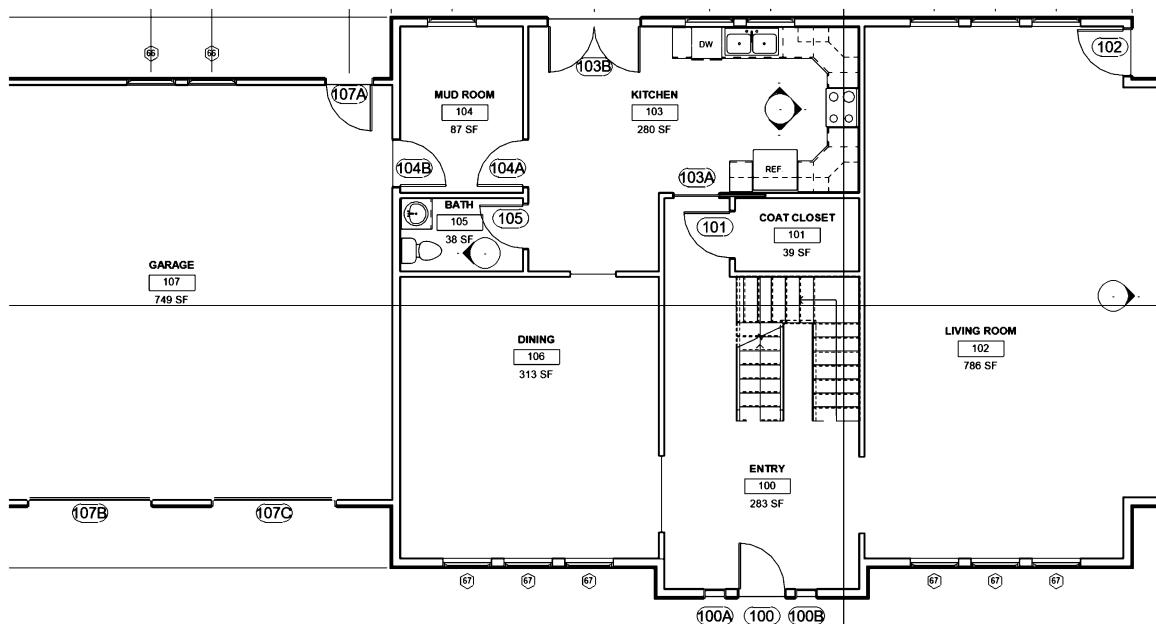
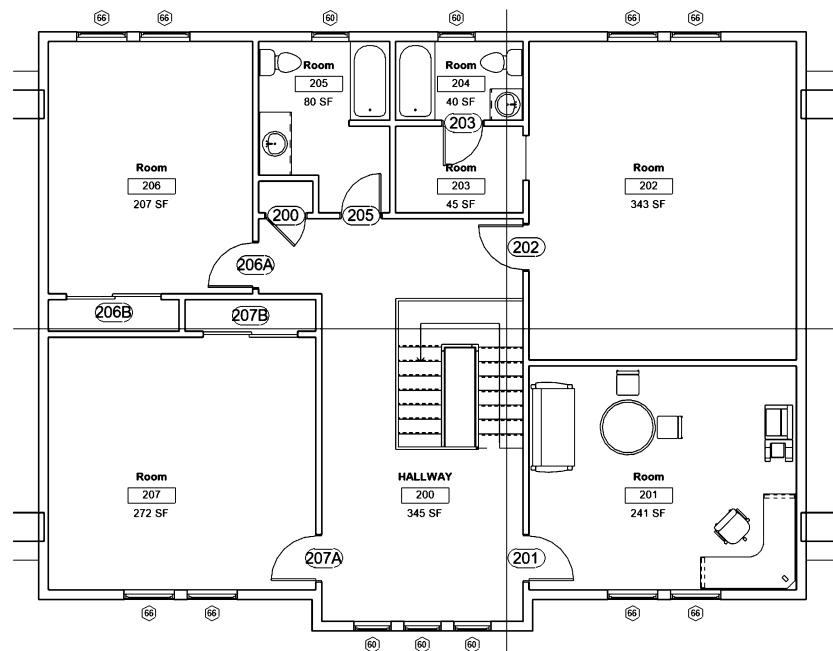

FIGURE 13-1.7 First Floor; door tags (tags enlarged for printing)
FIGURE 13-1.8 Second Floor; door tags (tags enlarged for printing)
14. **Renumber** all the *Door Tags* to correspond to the room they open into; do this for each level. Figure 13-1.7 is an example of the first floor and Figure 13-1.8 of the second floor. **Also, reposition door tags that overlap any other lines.**